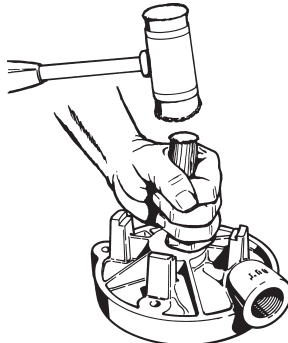

Figure 4-10
7. Before the motor bracket (#1) can be removed, the four (4) "O" rings (#8), located on the upper left and right studs must be removed.
8. Remove the seat portion of the seal. Refer to Figure 4-10.